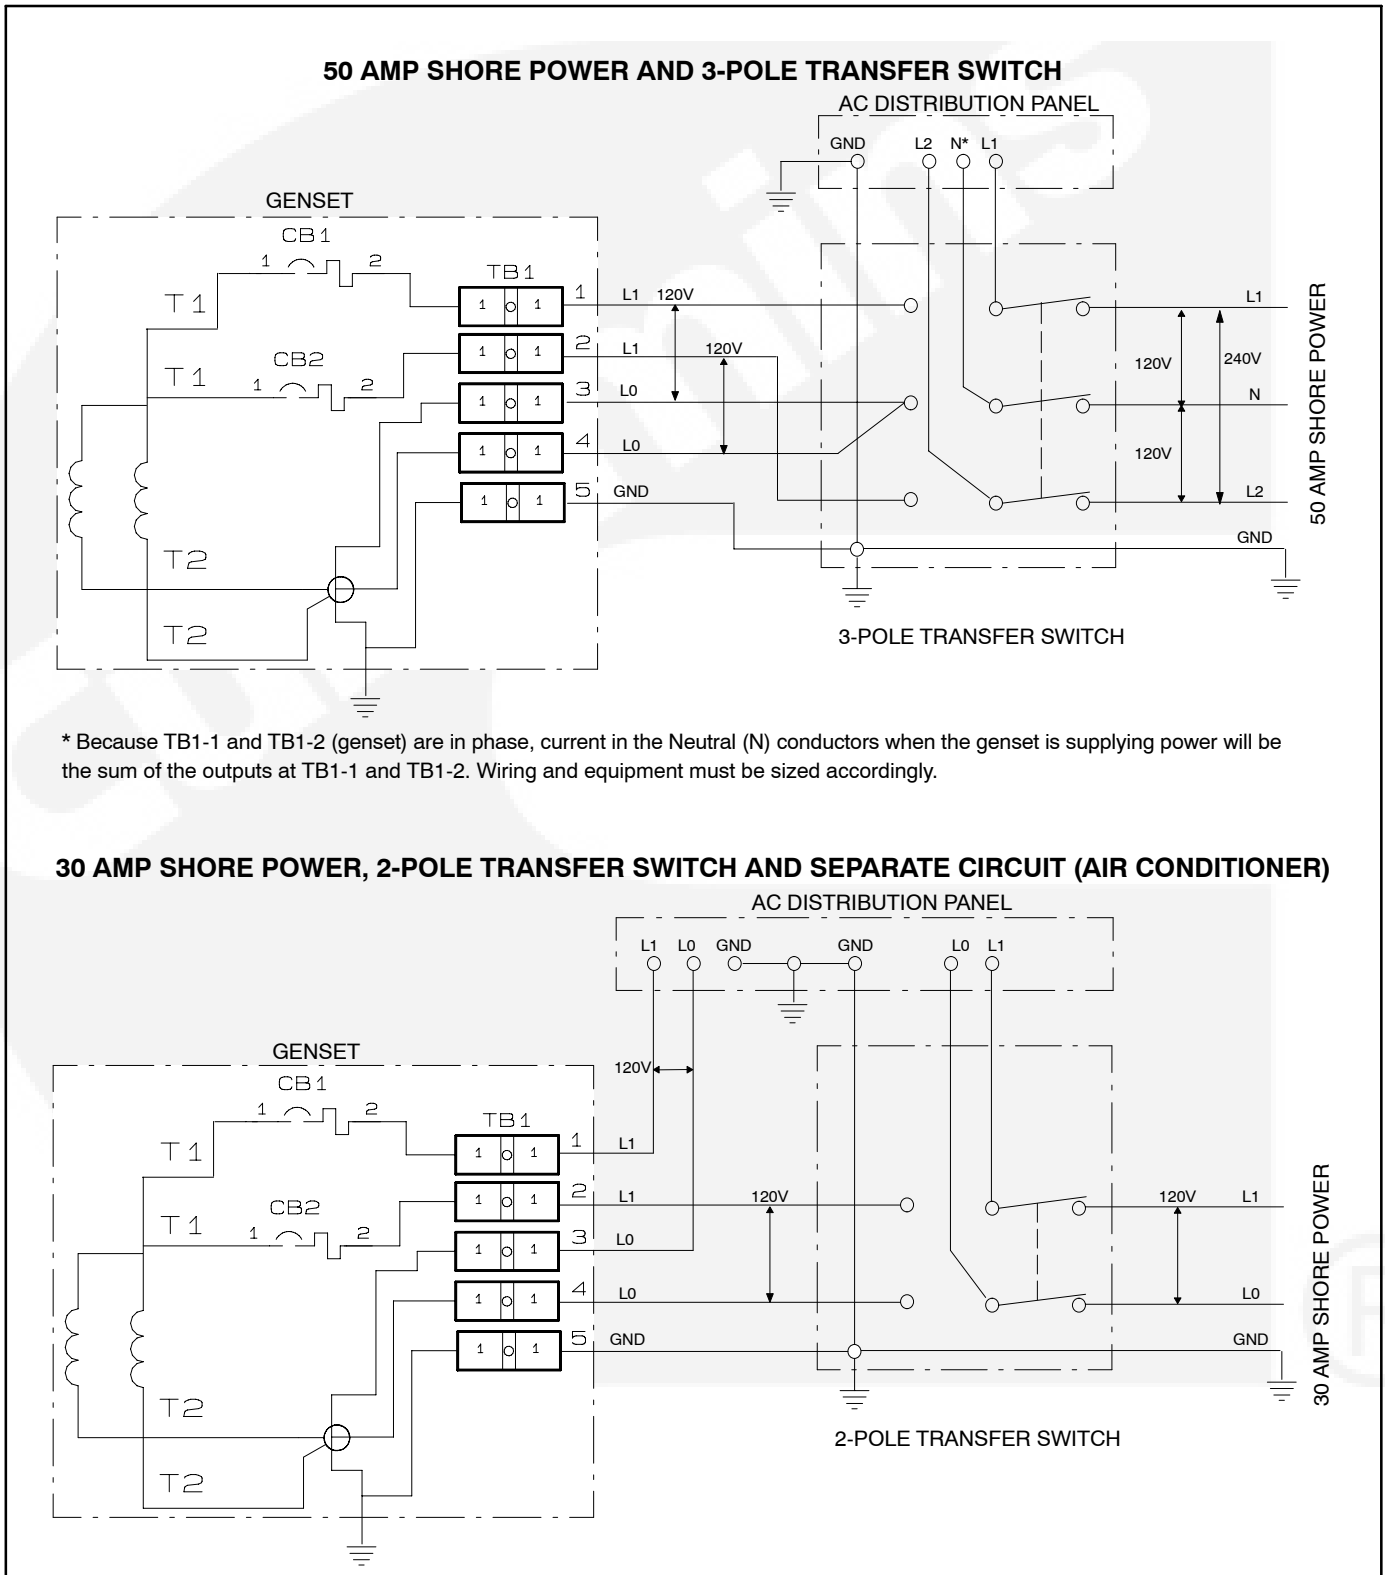

FIGURE 10. TYPICAL AC CONNECTIONS
8. Connect the grounding terminal (Terminal TB4-5, Figure 10) in accordance with applicable codes.
A vehicle with provisions for connecting utility power must have an approved device to keep the genset and utility from being interconnected. See Figure 10 for typical connections.